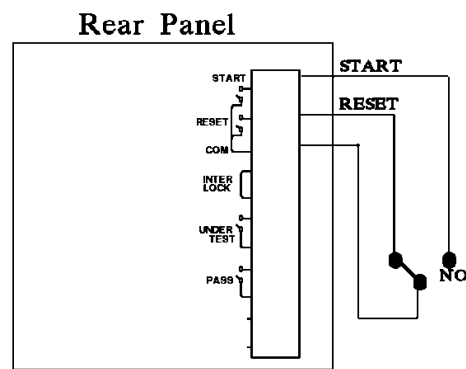

Figure 2-2
- If it is connected as *Figure 2-2* shows, the system routine is in RESET state as the NC is connected to RESET and NO is connected to START.